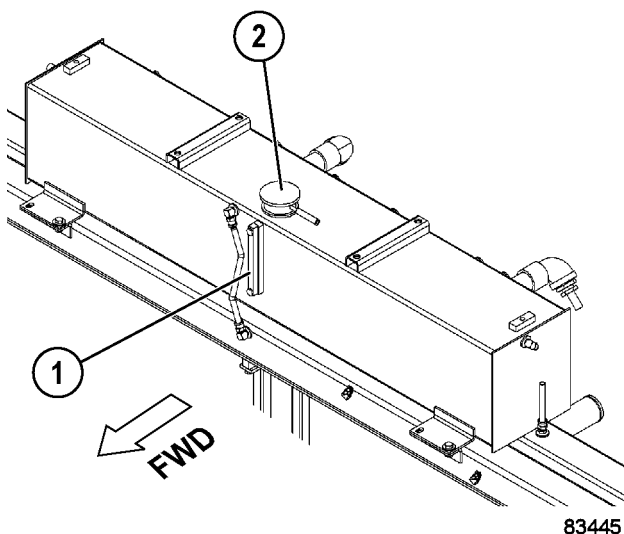

FIGURE 40-2. COOLING SYSTEM SERVICE
1. With the engine and coolant at ambient temperature, remove the radiator cap (2, Figure 40-2).